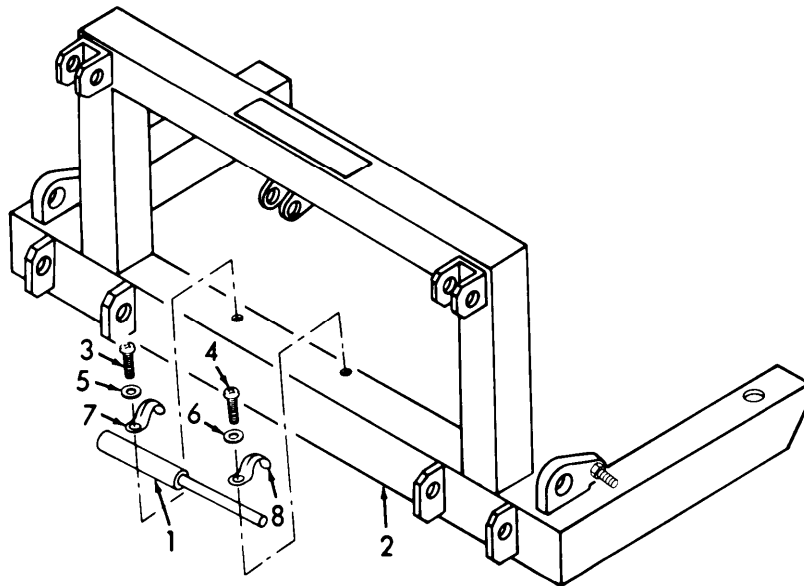

Figure 3-5. Jack Handle, Installation.
- (1) Install jack handle attaching hardware onto tine (2, Figure 3-5).
- (a) Install clamps (7) and (8), with washers (5) and (6), and screws (3) and (4), but do not tighten.
- (b) Install jack handle (1), into clamps (7) and (8), and tighten screws (3) and (4).